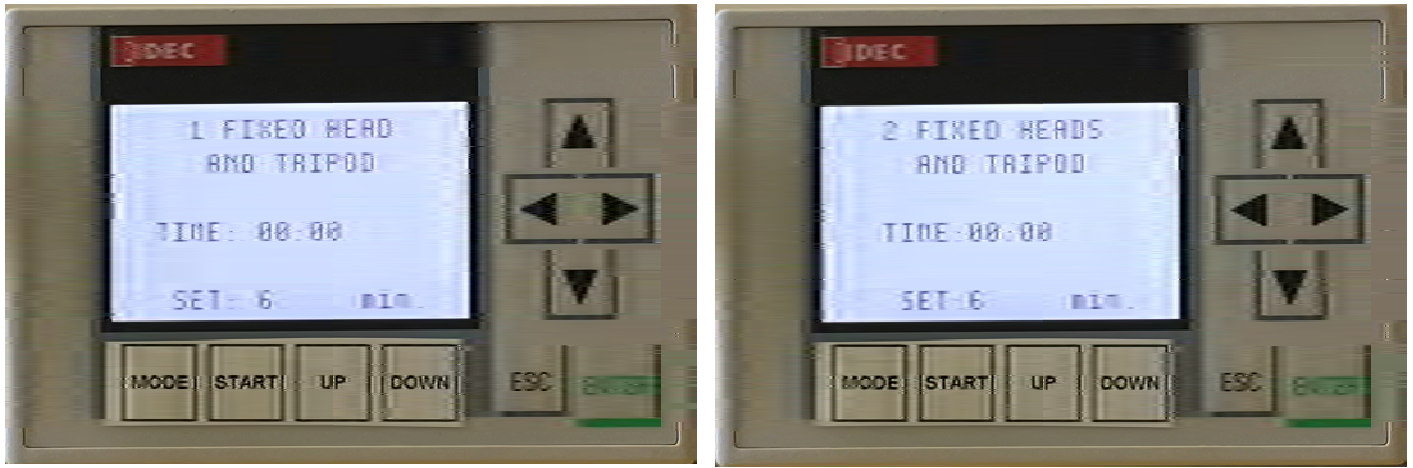

FIGURE 25
- 4.7.1 The Fixed Head and Tripod Mode (Figure 25) allow the operator to treat an enclosed area using the APA, when it is mounted on a tripod, as a remote aerosol head. This mode works best when HVAC and ventilation have been isolated.